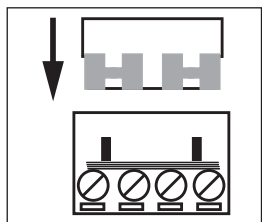

Fig 3 Continuity link
3. If a loop continuity test is to be done, it should be carried out before securing the call point to the backbox (step 5). Insert the continuity links supplied with the backbox (Fig 3) into the terminal blocks before testing. After testing for continuity remove the connectors and store for re-use.